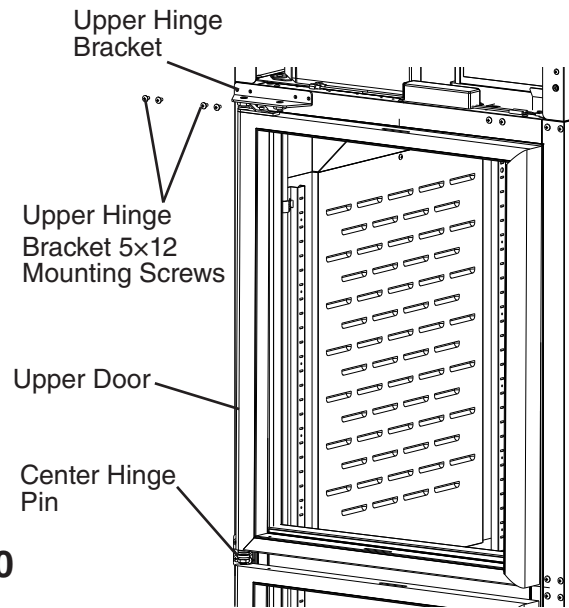

Fig. 60
- 19) While supporting the upper door and upper hinge bracket, place the upper door onto the upper center hinge pin on the center hinge bracket in the closed position, then secure the upper hinge bracket to the cabinet. See Fig. 60. **NOTICE! Be sure to reuse the bracket screws for mounting the bracket as the bracket screws are 5x12 and filler screws are 5x10.**